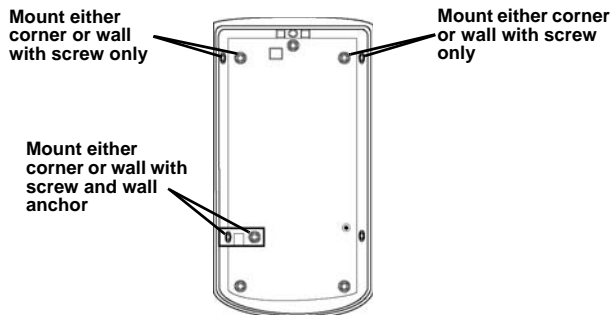

Figure 3 EN1241-60 mounting back plate
- If using the wall tamper function for increased security, mount the housing back plate per Figure 3, ensuring the tamper switch is depressed.